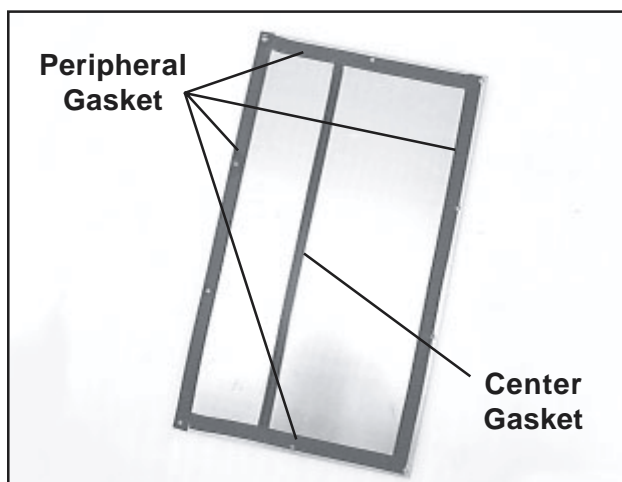

Figure 108. Gaskets on Rear of Front Plate
Gaskets are mounted on the rear face of the front panel to minimize air leakage from the blower box (Figure 108). The peripheral gasket, around the rear face of the plate, consists of four pieces of flat gasket material. The single-piece center gasket is grooved to fit over the partition in the blower box. It may not be necessary to replace all the gasket segments; you can replace only those segments that are damaged.
3. Press the new gasket in place on the blower box (Figure 108).